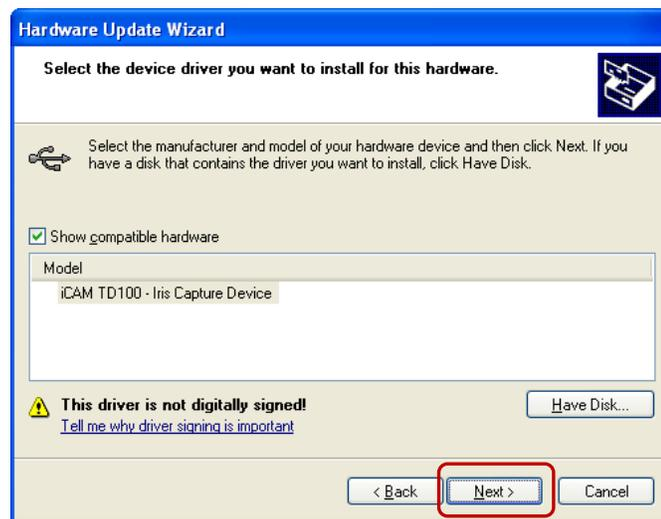

Fig. 24
19. Select **Next** (as shown in Figure 24).